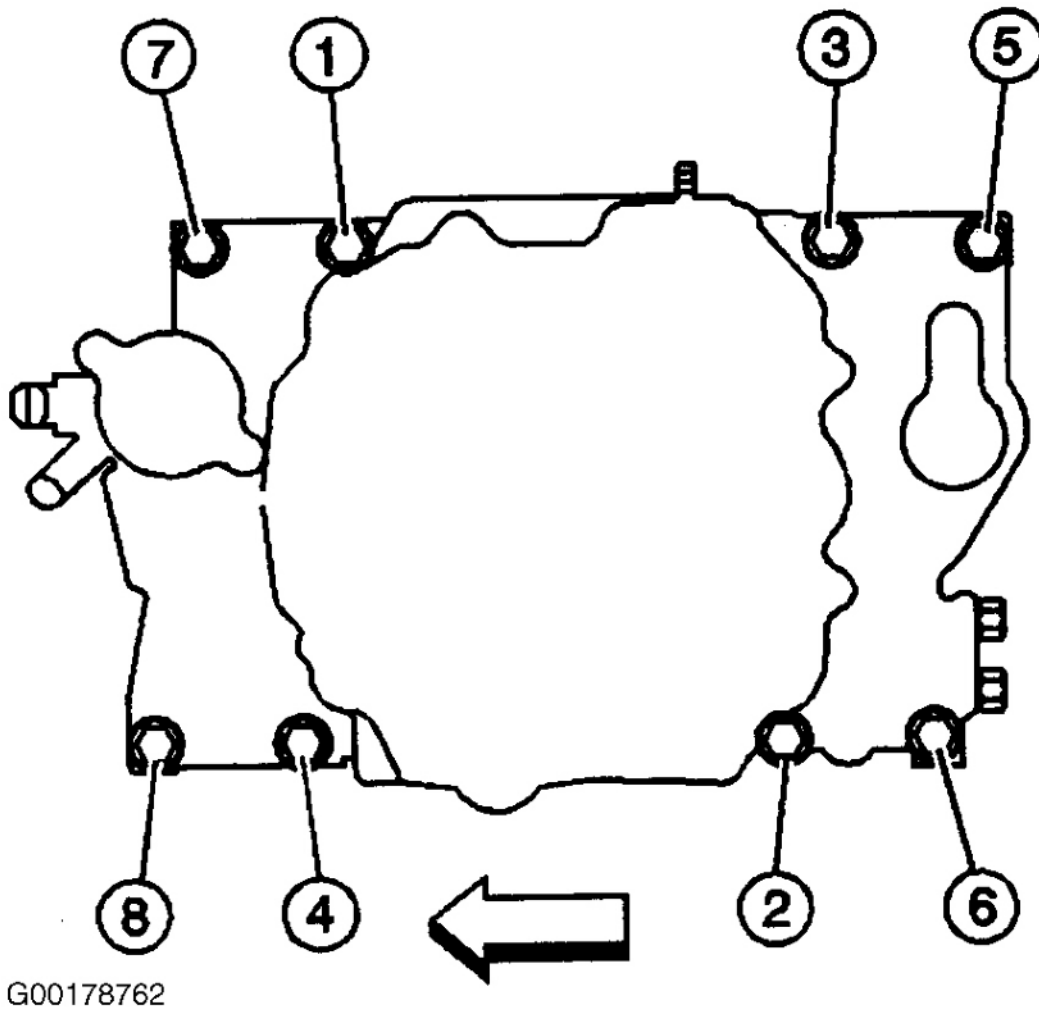

Fig. 412: Identifying Lower Intake Manifold Bolt Tightening Sequence (4.3L)
- (4) Tighten bolts/nuts following the sequence shown. See **Fig. 412**.